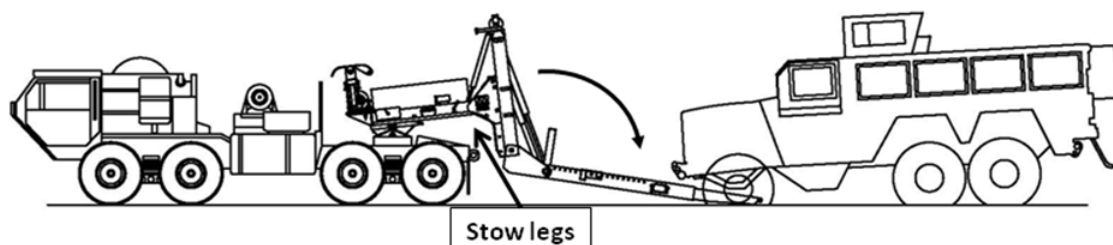

Figure 3 – Booms extended. Stow transport legs
- Using the remote control, **BOOM EXTEND** the boom until the transport legs are clear of the tractor after-frame. (figure 3)